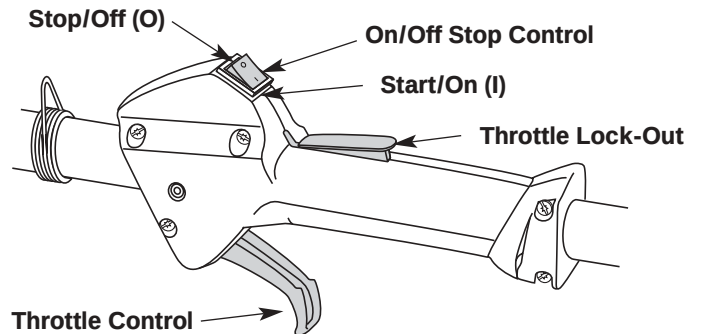
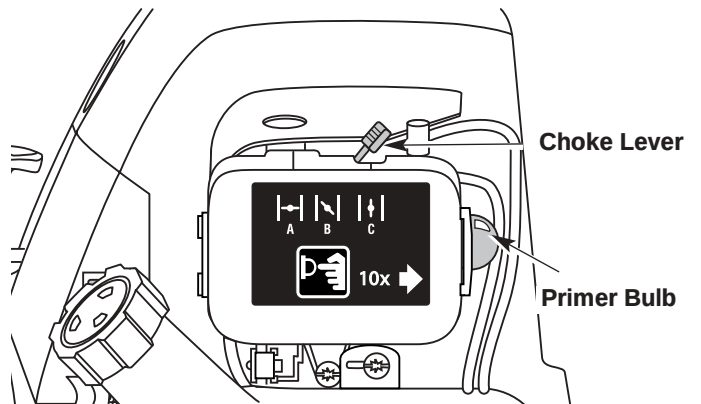

Fig. 20
Fig. 21
WARNING: Avoid accidental starting. Remain in the starting position when pulling the starter rope (Fig. 20). The operator and unit must be in a stable position while starting to avoid serious personal injury.
3. Make sure the Start/Stop Engine Control is in the **START [I]** position (Fig. 20).
4. Place the choke lever in the **FULL** choke (A) |←| position (Fig. 21).
NOTE: Slide the choke lever directly above the appropriate symbol on filter cover decal (Fig. 21).
5. Fully press and release the primer bulb slowly 10 times until **FUEL IS VISIBLE IN THE PRIMER BULB**. If you can't see fuel in the bulb, press and release the bulb as many times as it takes before you can see fuel in it (Fig. 21).
8. Move the choke lever to the **PARTIAL (B)** |↘| position (Fig. 21).
NOTE: Choking is unnecessary when starting a warm engine. Put the On/Off Stop Control in the **ON** position (Fig. 20), and start in **PARTIAL** choke (B |↘|) position (Fig. 21). After starting, place the choke lever in the **RUN (C |↑|)** position.
2. Put the On/Off Stop Control in the **OFF (O)** position (Fig. 20).